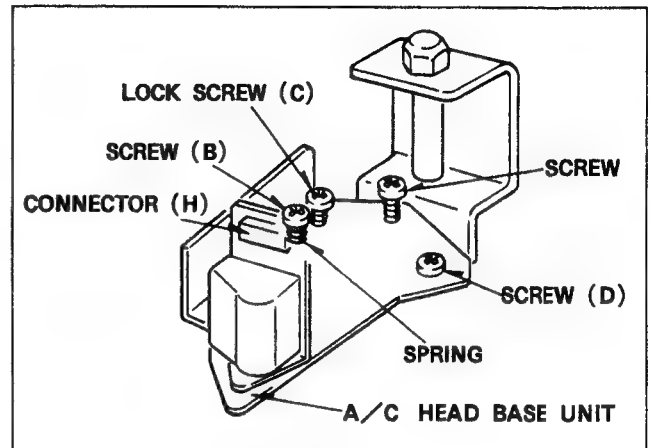

Figure M12
1. Disconnect a connector (Figure M12).
2. Unscrew 3 (B)(C)(D) screws with spring and then remove the A/C Head Unit (Figure M12).